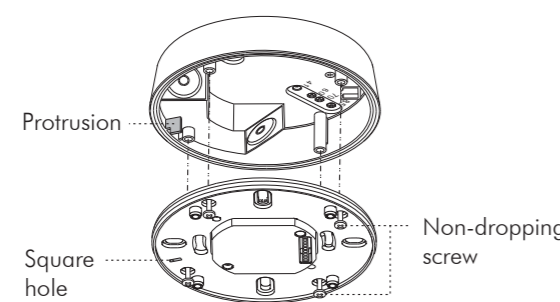

FIG.16
3.4.3.5 Refer to wiring diagrams for correct wiring connection (See FIG.5). There is a square hole in the fixing plate, when you put the fixing plate into the junction box, please fit the fillister to the junction box's protrusion (See FIG.16), then fix the detector head on the power box following FIG.6 and assemble them with the attached 4pcs non-dropping screws.